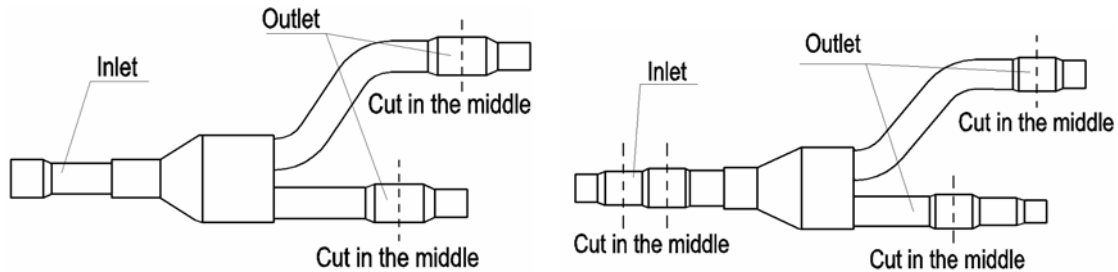

Fig. 10
- 2) The Y-type branch pipe is equipped with auxiliary tubes to adjust the diameter of the different pipes. If the dimension of the pipe selected is different from the dimension of the branch pipe joint, cut the copper tube in the middle with a tube cutter and clear up the burrs. Refer to Fig. 10